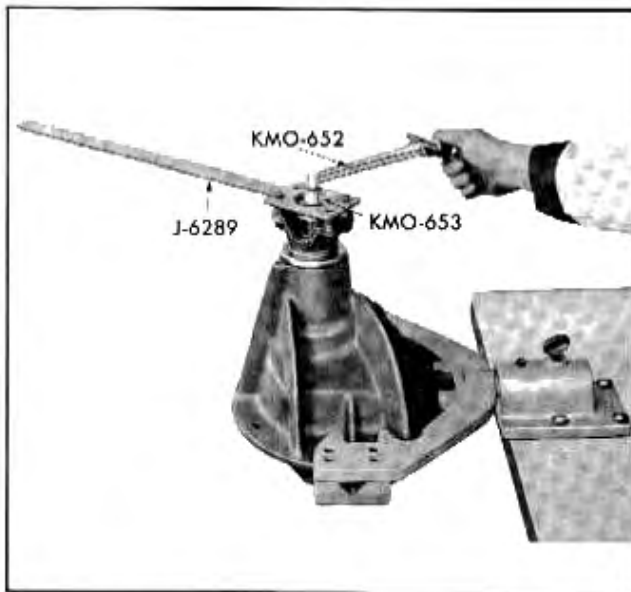

Fig. 4-37 Checking Pinion Bearing Preload With Torque Wrench KMO-652
27. Continue to tighten the nut a little at a time, stopping frequently to turn the pinion several revolutions to seat rollers and to check turning effort with pound-inch Torque Wrench KMO 652 (Fig. 4-37). Repeat until torque required to keep turning is as follows: